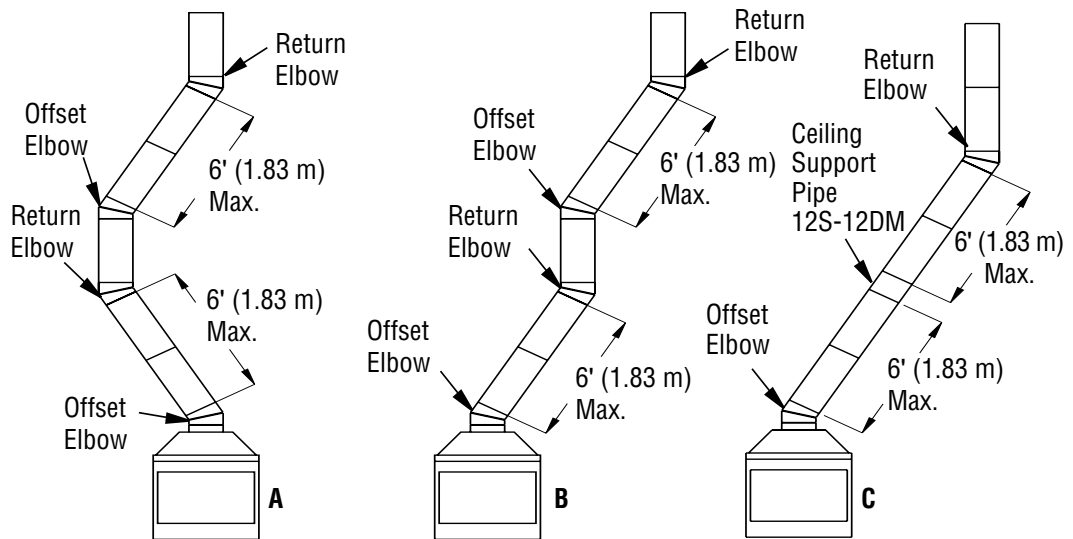

Figure 8 - Typical Offset Terminations
- To achieve desired offset, you may install combinations of 12", 18", 24", 36" and 48" length of double wall pipe (see offset chart, this page and Figure 8, page 8).
3. Maximum length of pipe between supports (return elbow or 12S-12DM) is 6' of angle run. Maximum of two 6' angle run sections per chimney system (see Figure 8).